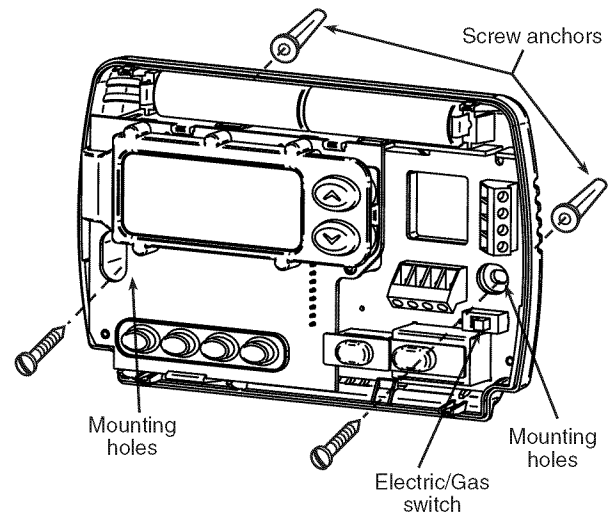

Figure 1. Thermostat Base
This thermostat is configured from the factory to operate a heat/cool, fossil fuel (gas, oil, etc.), forced air system. It is configured correctly for any system that DOES NOT require the thermostat to energize the fan on a call for heat. If your system is an electric heat or heat-pump system that REQUIRES the thermostat to turn on the fan on a call for heat, locate the **ELECTRIC/GAS switch** on the back of the thermostat (see fig. 1) and switch it to the **ELECTRIC** position. This will allow the thermostat to energize the fan immediately on a call for heat. If you are unsure if the heating/cooling system requires the thermostat to control the fan, contact a qualified heating and air conditioning service person.
5. Fasten base loosely to wall, as shown in fig. 1, using two mounting screws. Place a level against bottom of base, adjust until level, and then tighten screws. (Leveling is for appearance only and will not affect thermostat operation.) If you are using existing mounting holes, or if holes drilled are too large and do not allow you to tighten base snugly, use plastic screw anchors to secure subbase.
If **"BATT"** is displayed, the batteries are low and should be replaced. For best results, replace all batteries with new premium brand alkaline batteries such as Duracell® or Energizer®. To replace batteries, install the batteries along the top of the base (see Fig. 1). The batteries must be installed with the positive (+) end to the left.